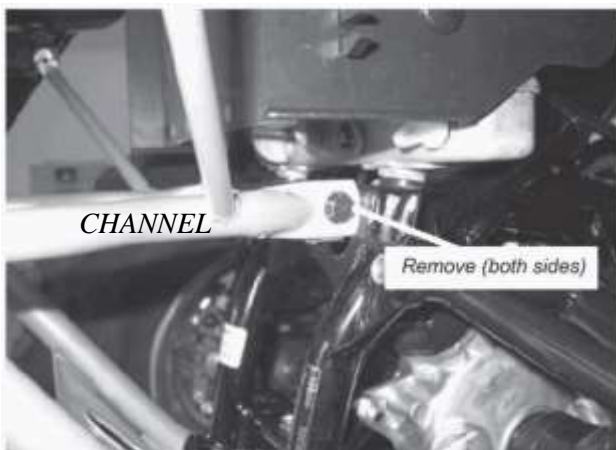

Figure 6 Remove Middle Bumper Bolts
6. Remove the (2) middle bumper bolts that attach the bumper to the middle of the ATV frame, "Figure 6". These two bolts will be replaced with the (2) supplied M8 bolts.